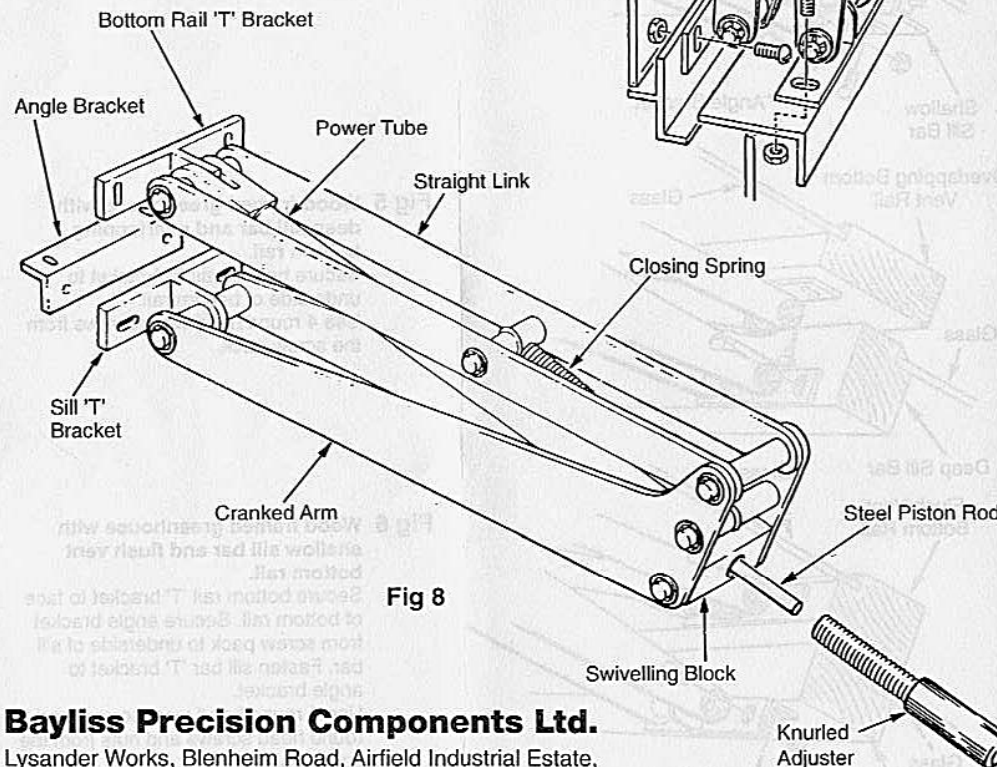

Fig 8
3. When the Autovent unit is cool, remove from the refrigerator and place the steel piston rod (See Fig 8), against a hard surface and push it firmly back into the tube. The Autovent is now ready to fit.